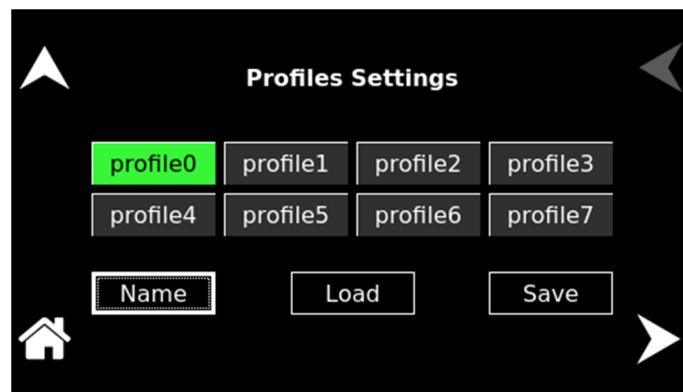

Figure 8-27: CONFIGURATION Menu, PROFILES Selection
2. Tap on the PROFILES field in the CONFIGURATION menu; refer to Figure 8-27.